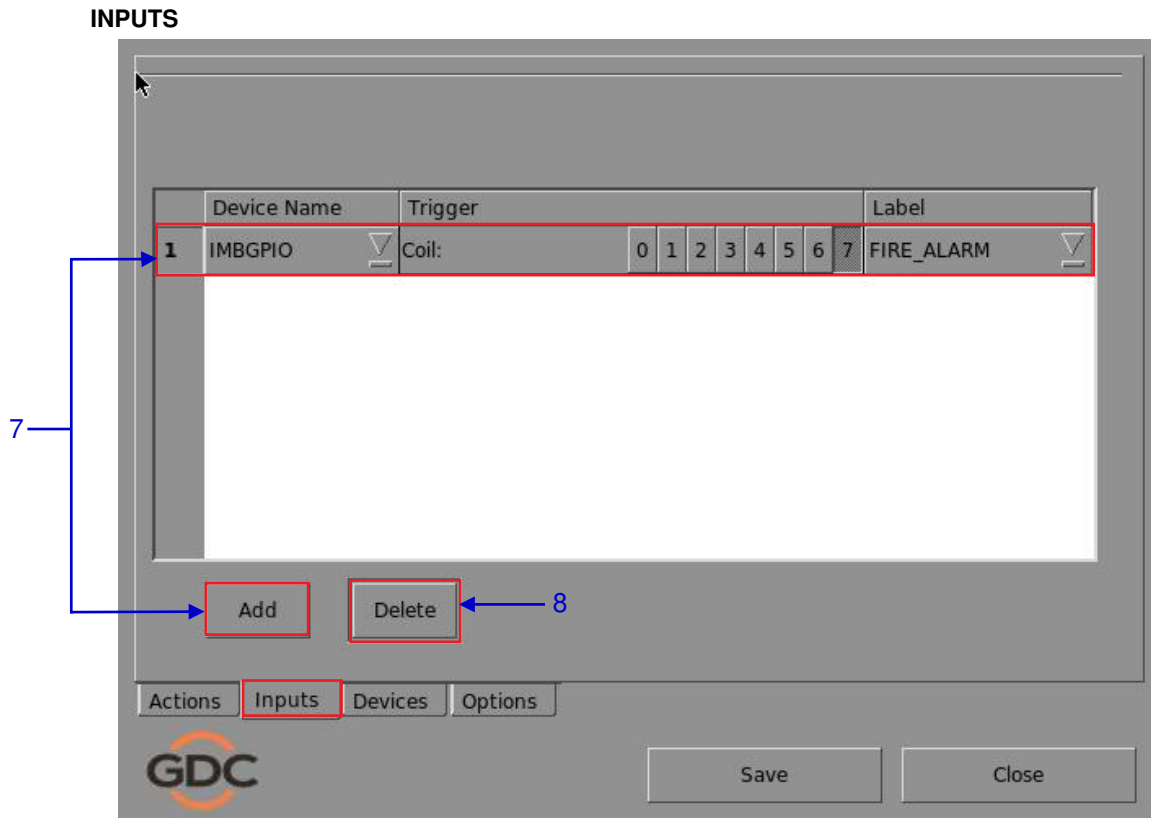

Figure 26 Inputs menu.
- 7 Press the **Inputs** button. A new window opens as seen in **Figure 26**. On the **Inputs** menu, press **Add** to enter the selected device.